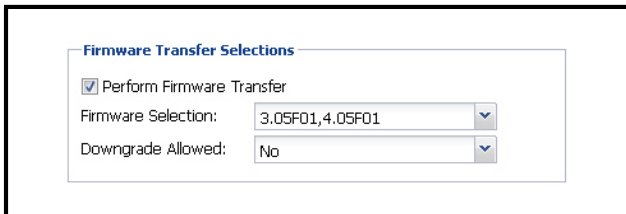

Figure 6-27 - Select the Firmware Package to Transfer
3. Under **Firmware Transfer Selections** (Figure 6-27), enable the **Perform Firmware Transfer** checkbox then select the appropriate firmware package under the **Firmware Selection** drop-down list:
4. Select whether a downgrade will be allowed (Figure 6-27). If the firmware selection is a downgrade for the selected control system, and it is acceptable for the downgrade to occur, select **Yes**. If **No** is se-
5. Select a firmware file to transfer from a list of firmware files (Figure 6-27) that are stored on the Site Manager server.
NOTE: If you wish to perform *language package update only* from this page, disable the *Perform Firmware Transfer* checkbox (Figure 6-27).